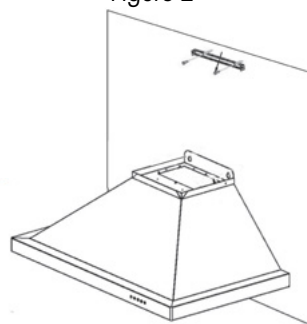

Figure 3
4. Mount the crown molding bracket, centering it above the hood. *Figure 3*